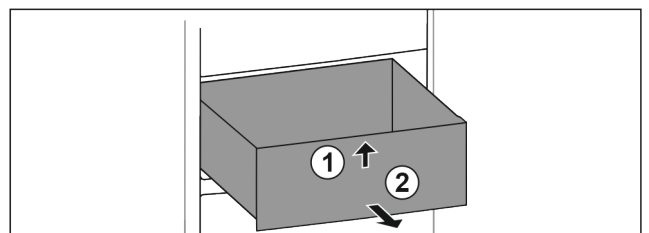

Fig. 65
- ▶ Lift up drawer at the front. *Fig. 65 (1)*
- ▶ Remove drawer to the front. *Fig. 65 (2)*